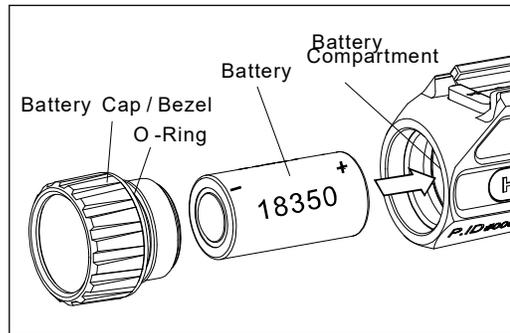

Fig 2
- 4) Install the battery as marked on the housing, positive (+) end first (see Fig. 2). Then replace the bezel/battery cap by screwing it in a CW direction.